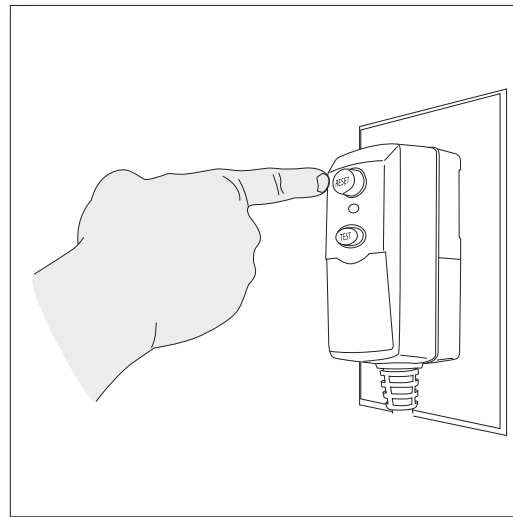

Fig. 19
- Unwind the power cord completely and plug the GFCI into a grounded 120 volt outlet. Press the ‘**reset**’ button on the GFCI box **(Fig. 19)**. The indicator window should show a red color. This must be done each time the unit is plugged in.